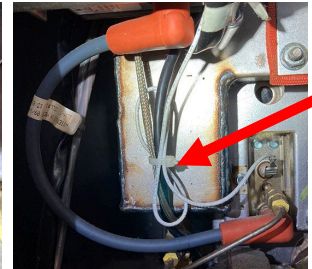

Figure 80
- 79. Use zip ties to secure the wires (see Figure 80).